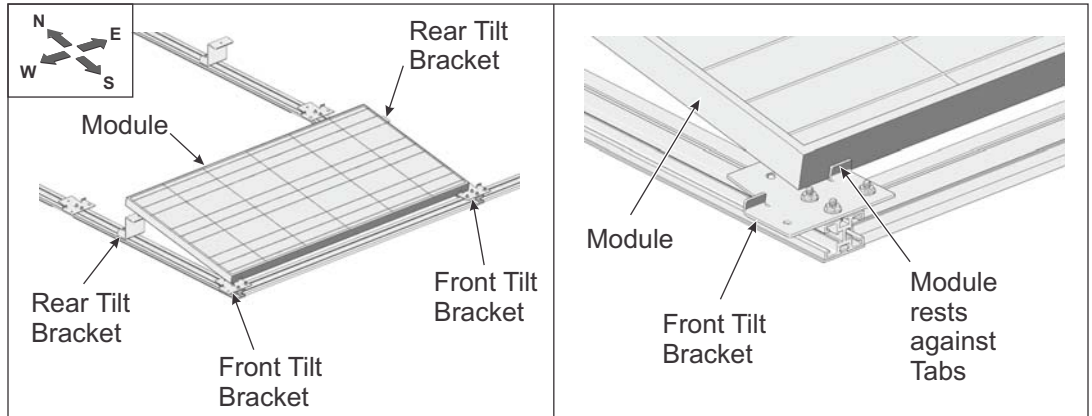

Figure 8-3: Installing PV Modules onto Tilt Brackets
- G. Position PV Module onto the southwest-most Front Tilt Brackets. Allow Module frame to rest against the tabs of the Front Tilt Brackets. Lower the rear of the Module and rest it on top of the Rear Module Tilt Brackets. (See Figure 8-3)